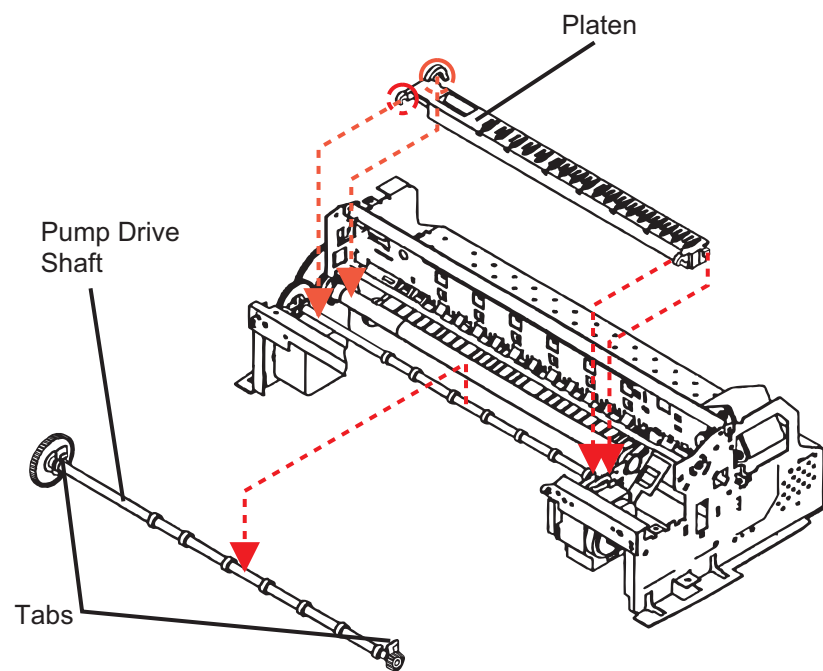

Figure 4-21. Removing the Platen and Pump Motor Drive Shaft
6. Remove the platen by first lifting its left end, then lifting up the right. Then pull it out to the left. See Figure 4-21.
7. Remove the pump drive shaft, by pulling *inward* then *up* on the locking tabs located on the right and left ends of the shaft. See Figure 4-21.